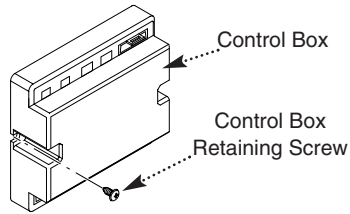

Fig. 76
5. Undo the front retaining screw and remove the control box (Fig. 76).